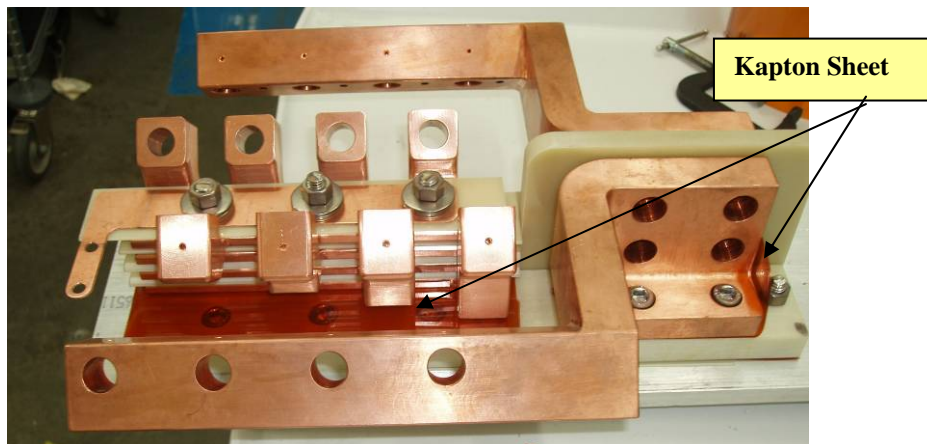

Figure 20- Install Terminal Lugs
- Install and epoxy in-place the insulating divider plate in the groove provided in the G-11 base. Mount the terminal lugs to the G-11 base plate and secure in position with appropriate hardware. Figure 20- Install Terminal Lugs
- Install a Kapton sheet [0.002 in. minimum thickness] between the G-11 base-plate and the Terminal lugs extending over the mounting hardware that secures the G-11 plate to the winding form. This will improve the electrical tracking distance. [See Figure 20- Install Terminal Lugs]